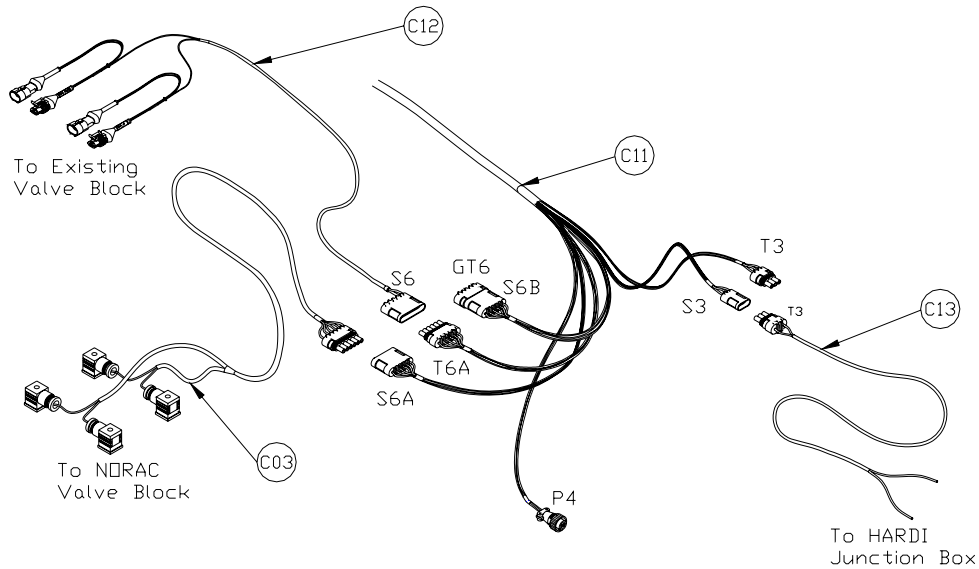

Figure 22 – Cable Configurations: C11, C12, C13 and C03
7. Connect the 6-pin Shroud (S6) on the Interface cable (C12) to the mating connector (T6A) on C11 (Figure 22).